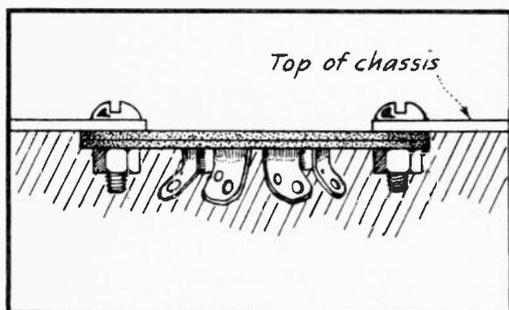

FIG. 2
**TUBE SOCKET MOUNTING:** The correct method for installing the tube sockets on the chassis is clearly shown in Fig. 2. Notice that the socket is mounted on the underside of the chassis, care being exercised that the